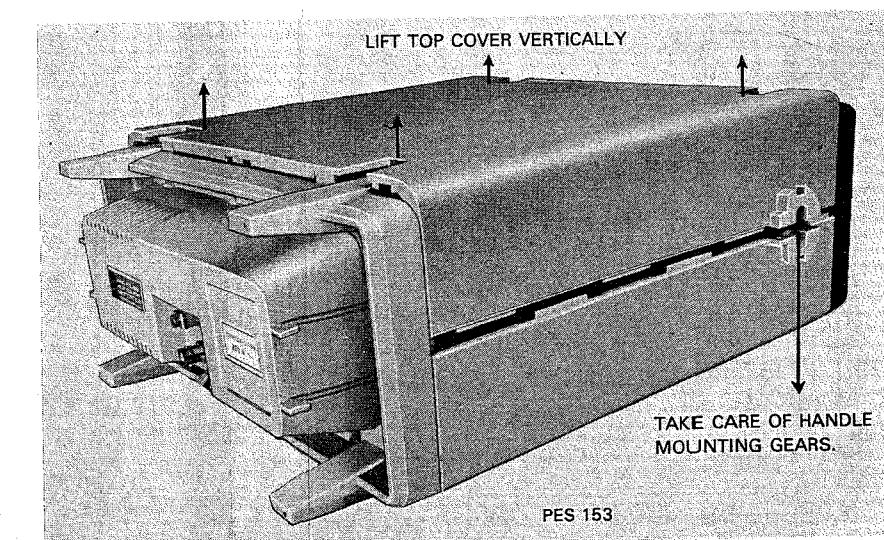

Fig. 3.3 Lifting the top cover.
- Now lift vertically the top-cover out of the front and rear-cover (Fig. 3.3.).